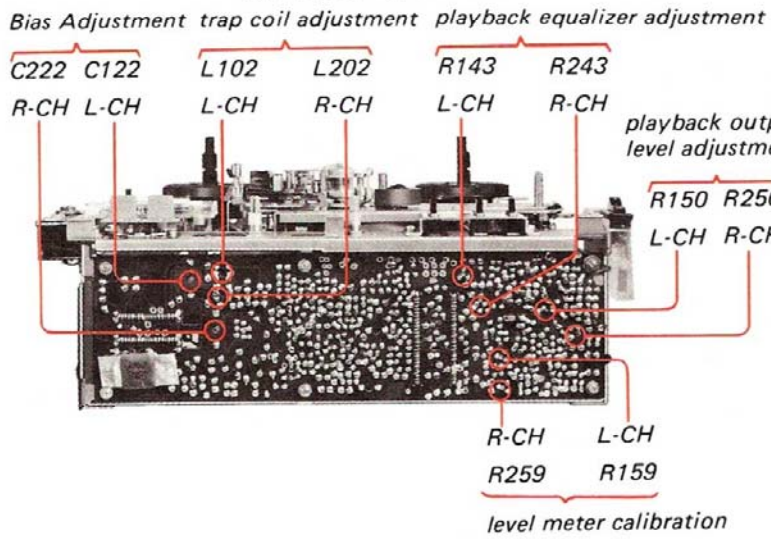

Fig. 3-2-11. Adjusting parts location for the items 5, 6, 7 and 10
- Step 3. Adjust the R150 (R250) to obtain 0 dB (0.775V) on the VTVM. (See Fig. 3-2-11.)
- Step 4. Adjust the R159 (R259) so that the pointer of level meter stops at the figure 0 on the scale. (See Fig. 3-2-11.)
- Step 3. Play back the 4th tone (10kHz) and adjust R143 (R243), to obtain the same VTVM reading as the step 2. (See Fig. 3-2-11.)
- Step 2. Adjust the L102 (L202) to obtain the minimum VTVM reading (less than -5 dB, 0.433 V). (See Fig. 3-2-11.)